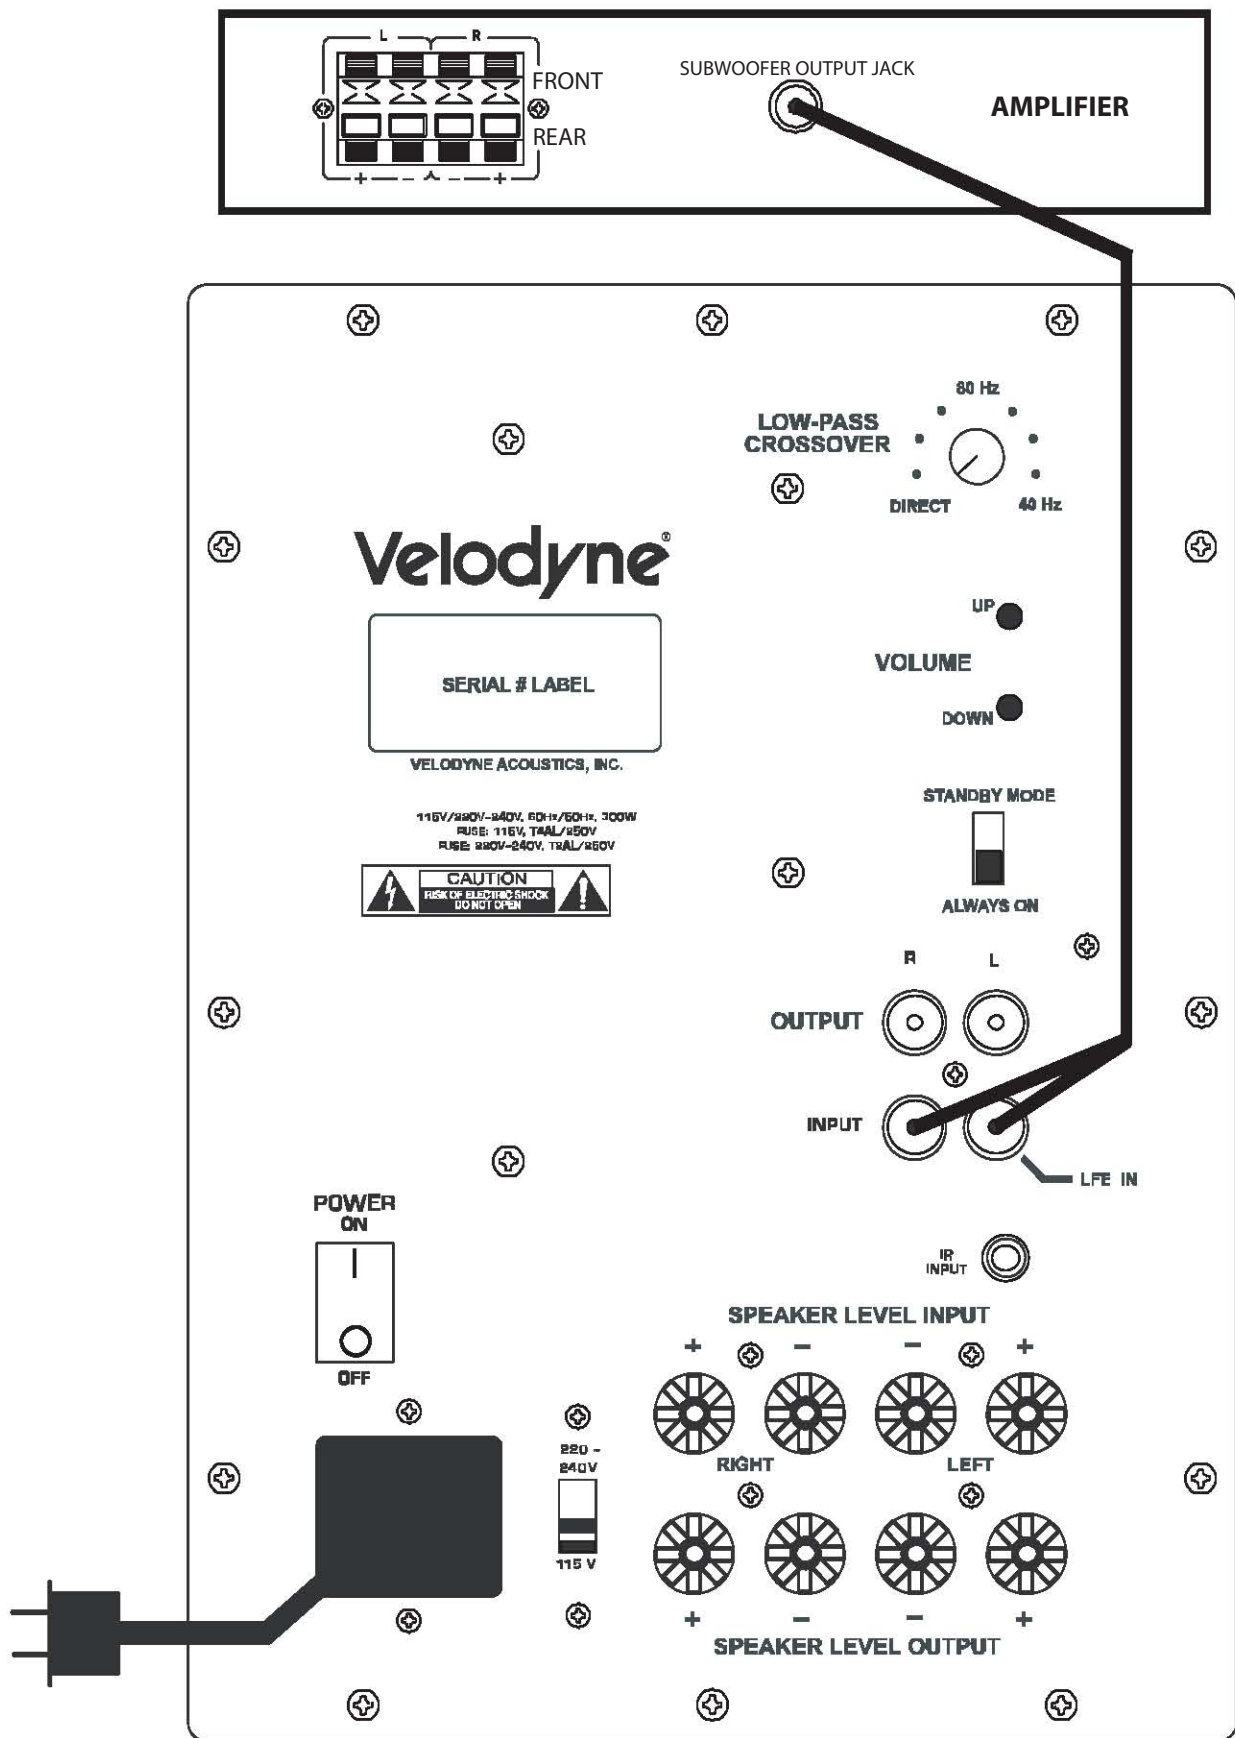
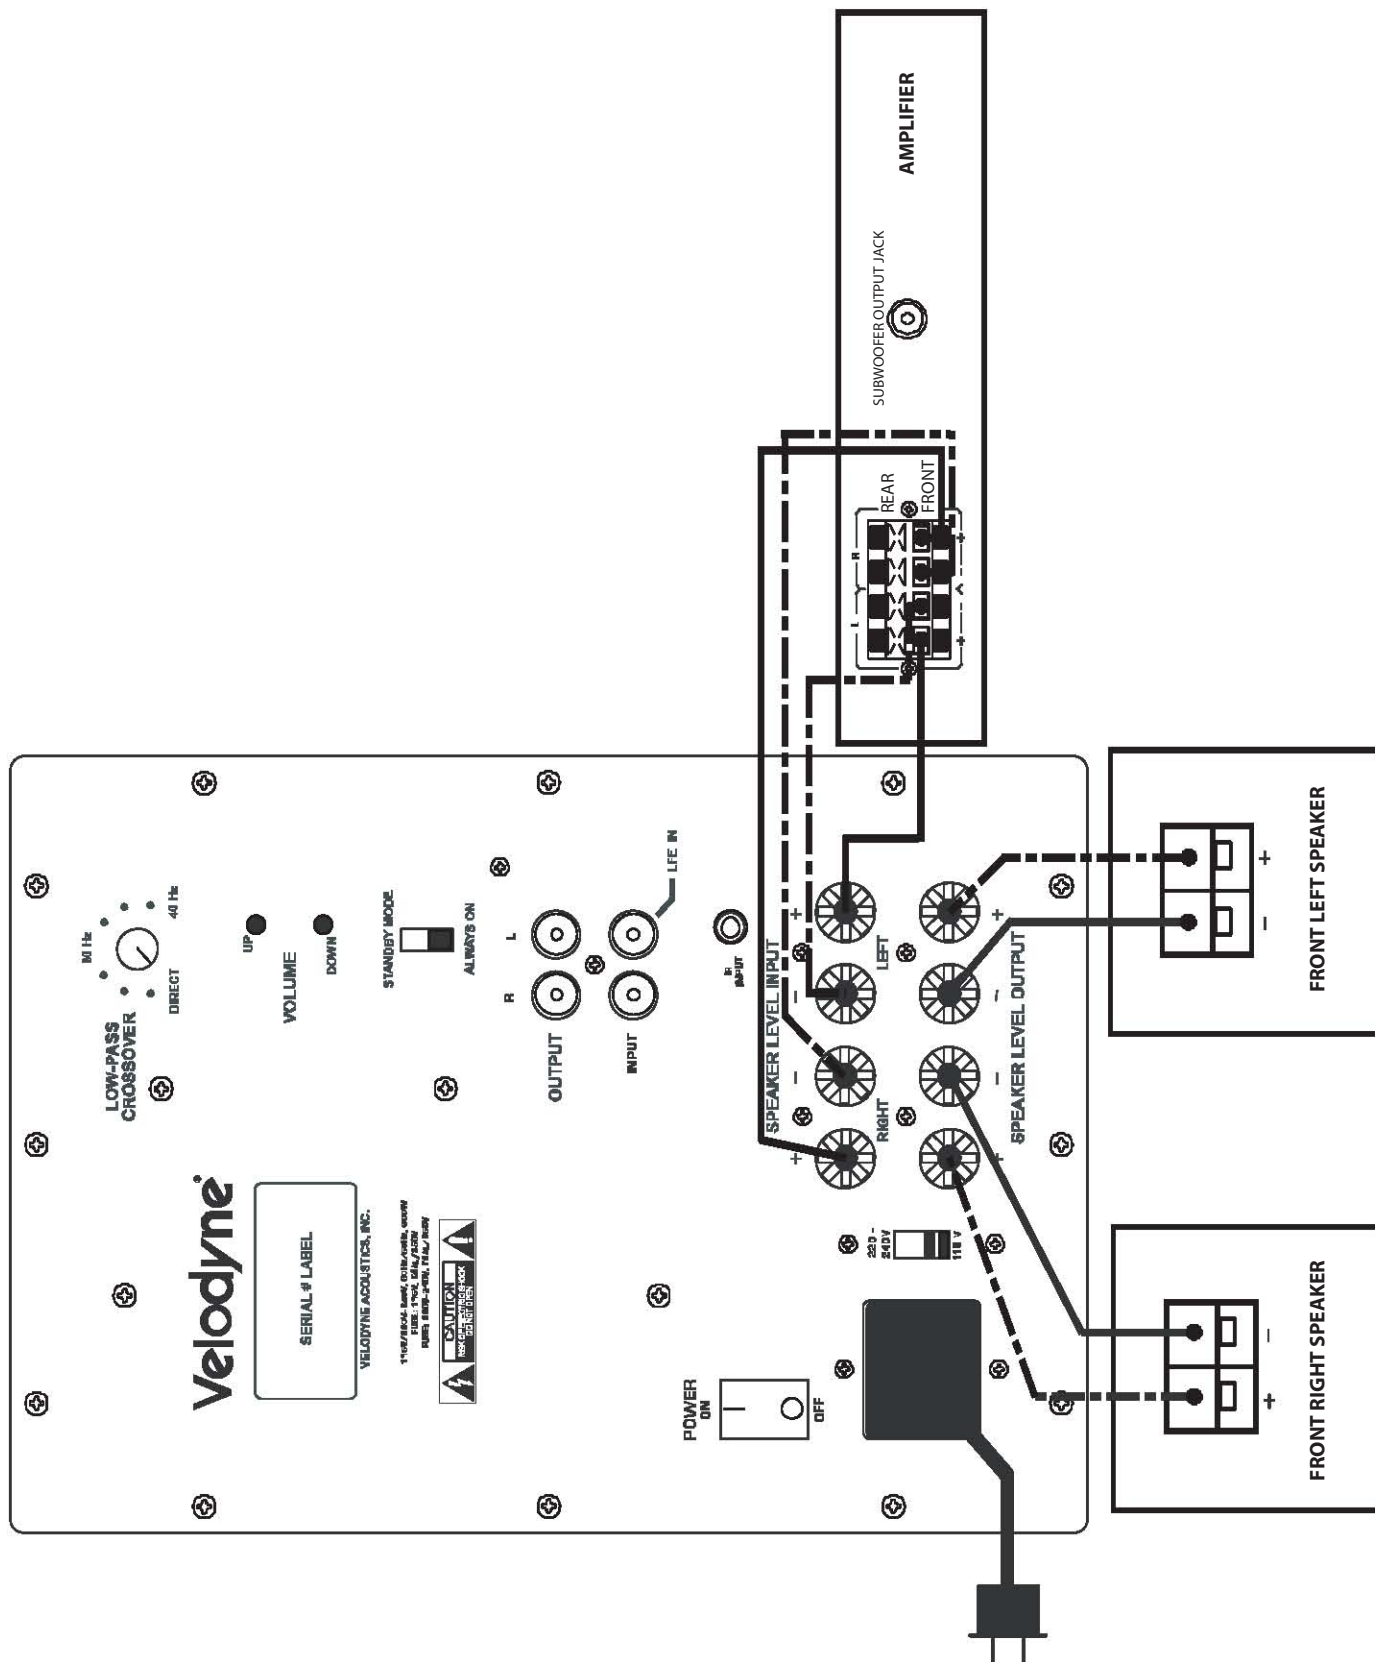

Figure 4. Line-Level Subwoofer Connection Diagram
Figure 5. Speaker-Level Subwoofer Connection Diagram
- 1) If using line level jacks, BOTH THE LEFT AND RIGHT INPUT SHOULD ALWAYS BE USED – never use just the left or just the right input. If using line level connections from a preamp or signal processor, use both Left and Right inputs from your preprocessor or preamp and connect them to the Left and Right inputs on your subwoofer. (See figure 4 on page 10.)
- 2) If using a receiver with LFE out, be sure the LFE channel is sending adequate signal to the subwoofer. The subwoofer's default volume setting is 30 on a 1-80 scale (roughly 1/3 volume). Adjust the LFE channel on your receiver or processor to achieve the desired bass output. See your receiver or processor's owner's manual for more information. (See figure 5 on page 11.)
(Refer to Figure 4 Line-Level Subwoofer Connection Diagram and Figure 5 Speaker-Level Subwoofer Connection Diagram, pages 10 and 11 for connection diagrams.)